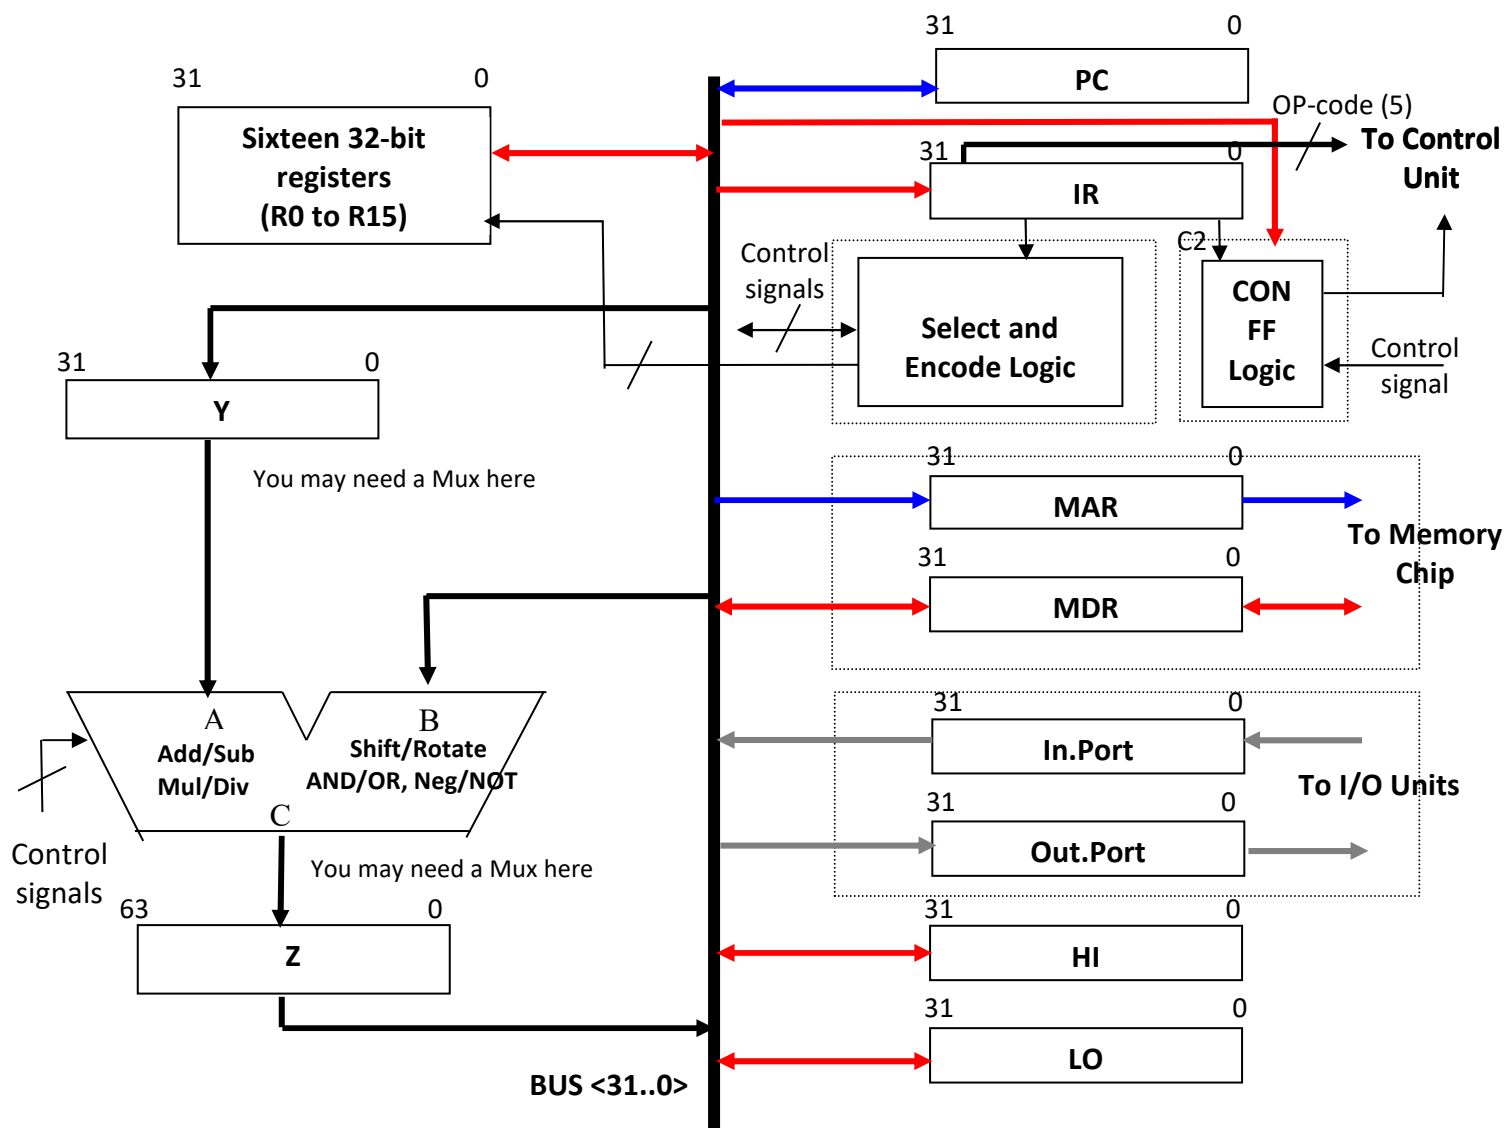

Figure 1: Simplified datapath
**2.1 DataPath:** Figure 1 illustrates a simplified single-bus Datapath for the Mini SRC (see Figure 4.2 on page 143 and Figure 4.3 on page 148 of the Lab Reader). As shown in Figure 1, the datapath consists of a 32-bit bus, BUS. The bus is responsible for transferring the information among different components of the system. There can be only one transaction at a time on a single bus. There are sixteen 32-bit registers *R0* through *R15* in the Mini SRC, as discussed in the CPU specification. There are also two dedicated 32-bit registers *HI* and *LO* for holding the result of a multiplication or a division operation. The 32-bit *Instruction Register*, *IR*, holds the current instruction. The 32-bit *Program Counter*, *PC*, points to the address of the next instruction after the execution of the current instruction. *PC* is incremented by 1 during the instruction fetch, using *IncPC* control signal in the *Arithmetic Logic Unit* (ALU). You may instead opt for a hardware incrementer outside ALU. In general, you are welcome to come up with your own ideas and design decisions during the entire CPU design project.
Design the datapath shown in Figure 1 (except for the “Select and Encode Logic”, “CON FF Logic”, “Memory chip in the Memory Subsystem”, and “Input/Output ports” units) using an all HDL (VHDL or Verilog) or a mixed schematic/HDL in Quartus II design software. You are advised to follow the steps below when designing your datapath:
1. Design the registers R0 to R15, PC, IR, Y, Z, MAR, HI, and LO (see Figures 1 and 2).